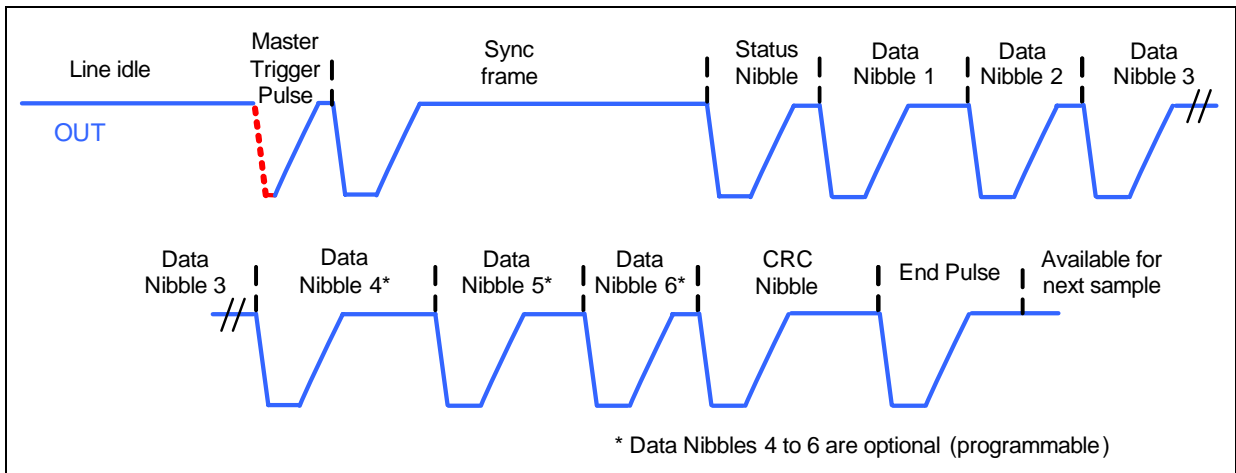

Figure 13 SPC Frame
As in SENT, the time between two consecutive falling edges defines the value of a four bit nibble, thus representing numbers between 0 and 15. The transmission time therefore depends on the transmitted data values. The single edge is defined by a 3 unit time (UT) low pulse on the output, followed by the high time defined in the protocol (nominal values, may vary by tolerance of internal RC oscillator, not including analog delay of the open drain output and influence by external circuitry, unit time programming see Section 13.2). All values are multiples of a unit time frame concept. A transfer consists of the following parts, depicted in Figure 13:
In the “synchronous” mode, the sensor (slave) starts to transfer a complete data frame only after a low pulse is forced by the master on the OUT pin. This means that the data line is bidirectional - an open drain output of the microcontroller (master) sends the trigger pulse. The sensor then initiates a sync pulse and starts to calculate the new output data value. After the synchronization period, the data follows in form of a standard SENT frame, starting with the status, data and CRC nibbles. At the end, an end pulse allows the CRC nibble decoding and indicates that the data line is idle again. The timing diagram in **Figure 13** visualizes a synchronous transmission.